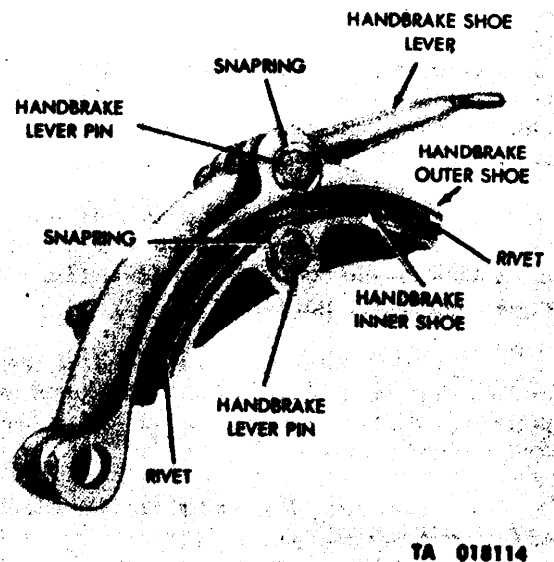

Figure 4-45. Handbrake Shoe — Disassembly.
- (1) Remove the two snaprings holding the handbrake lever pins in position. (See fig. 4-45.)
(3) Remove the handbrake shoe lever and lever pins. (See fig. 4-45.)
(4) Remove the 16 rivets securing the inner and outer brakeshoes to the handbrake assembly. (See fig. 4-45.)
- a. Handbrake (fig. 4-45).